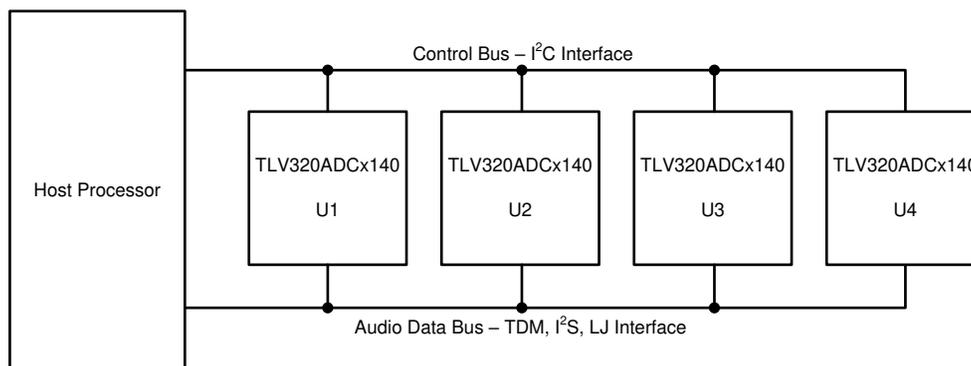

Figure 1-1. Four TLV320ADCx140/PCMx140-Q1 Devices With Shared Control and Audio Data Buses
| Figure 1-1. Four TLV320ADCx140/PCMX140-Q1 Devices With Shared Control and Audio Data Buses..... | 2 |
For TLV320ADx140 applications requiring more than four channels, multiple TLV320ADCx140/PCMx140-Q1 devices can share a common bus. For systems with up to 16 analog input channels or up to 32 digital microphone inputs, up to four TLV320ADCx140/PCMx140-Q1 devices can share a single control and audio data bus to minimize board routing area. TLV320ADCx140/PCMx140-Q1 supports a control bus using the I²C interface and an audio serial bus using a time-division multiplexed (TDM), Inter-IC Sound (I²S), or Left-justified (LJ) interface. Figure 1-1 shows a diagram of four TLV320ADCx140/PCMx140-Q1 devices sharing the control and audio data buses.
For proper operation of the audio bus in TDM mode, the number of bit clocks per frame must be greater than or equal to the number of active output channels times the programmed word length of the output channel data, as shown in Equation 1. For the example shown in Figure 1-1 with four devices, each with four channels, at a 48-KHz sampling rate and 32-bit word length, $BCLK \geq 4 \times 4 \times 48\,000 \times 32 = 24.576$ MHz. Since the maximum supported BCLK is 25 MHz, the maximum number of devices is dependent on the number of channels used, sample rate, and word length that maintains a bit clock (BCLK) under 25 MHz.